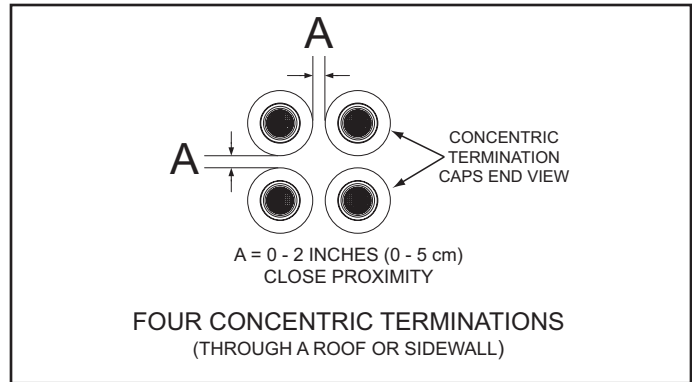
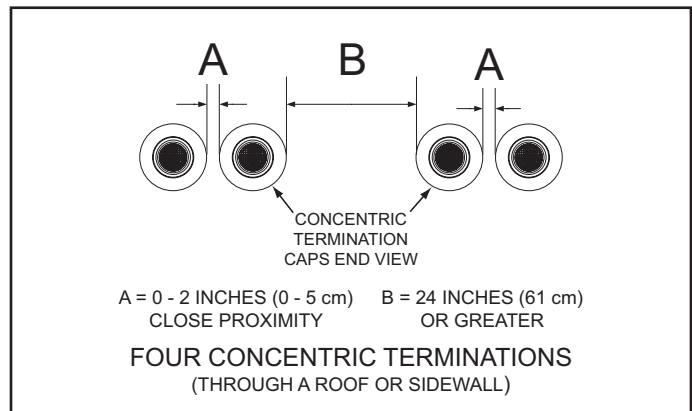
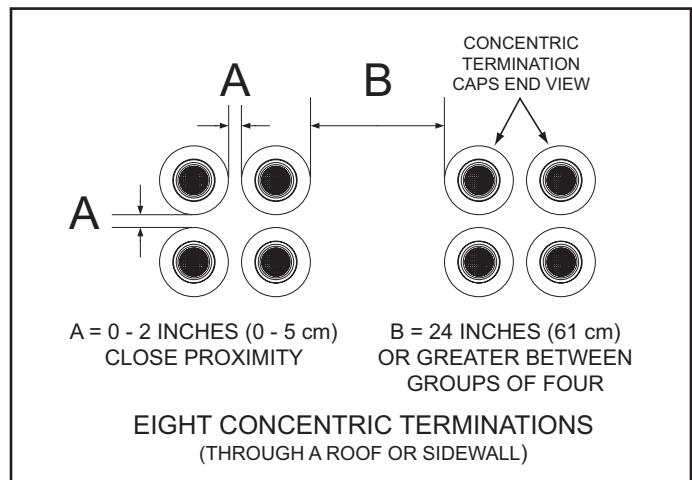
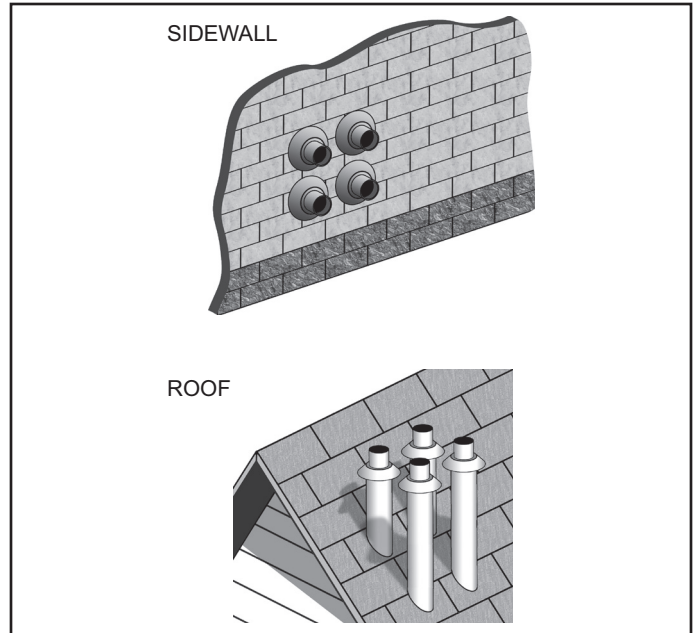

Figure 34
Figure 35
Figure 36
Figure 38
1. When installing four concentric terminations through a roof or through a sidewall in close proximity they may be arranged into stacked rows of two as shown in Figure 34 or lateral rows of two as shown in Figure 35.
2. Four is the maximum number of concentric terminations that may be installed in a group where all terminations are in close proximity as shown in Figure 34.
1. When installing multiple groups of concentric terminations through a roof or through a sidewall in close proximity they can be installed into stacked groups of four as shown in Figure 36. Lateral groups of four as shown in Figure 35 may be a more convenient installation arrangement for multiple groups depending on available space.
Four concentric terminations may be installed in close proximity as shown in Figure 38. See Figure 34 and Figure 35 on page 31 for detailed information on clearances and additional arrangement options.
Eight concentric terminations may be installed in two stacked groups of four, in close proximity, as shown in Figure 39. See Figure 36 on page 31 for detailed information on clearances.
Lateral groups of four as shown in Figure 35 on page 31 may be a more convenient installation arrangement for multiple groups depending on available space.